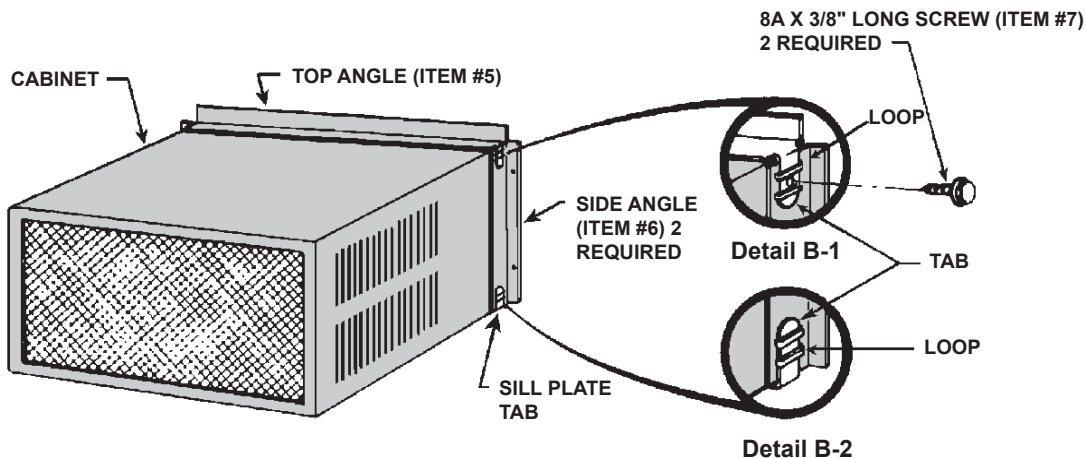

Figure C.5.1
STEP 3. With the wide flange and pilot holes of the sill plate forward, put the screws/nuts in the rear holes of the sill plate and third shell hole from the front (the center of three square holes). Anchor the side angles (Item#6) by engaging the tabs at each end of the sill plate with the bottom loops of the side angle. Engage the tabs at each end of the top angle (Item#5) with the top loops of the side angle. Install two (2) screws (Item #7) to secure the top angle tabs and the side angle to the rear-most holes in the side of the cabinet (See Figure C.5.1, below).